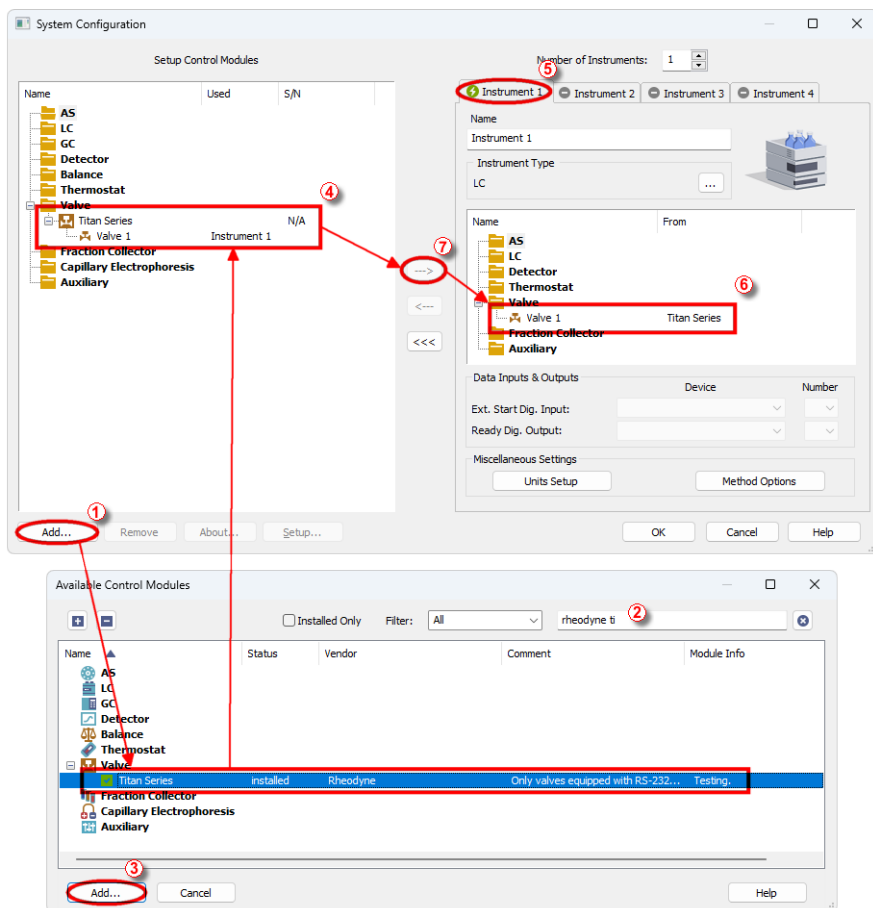

Fig. 2: How to add Rheodyne valves
- Press the **Add** button ① (see Fig. 2 on pg. 4.) to invoke the **Available Control Modules** dialog.
- You can specify the searching filter ② to simplify the finding of the driver.
- Select the **MX II Series** or **Titan Series** valves and press the **Add** ③ button.